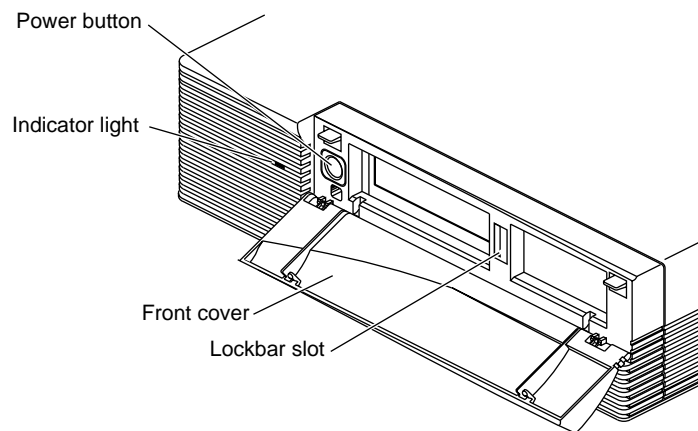

Figure 2-2 Turning Off the Power
2. Open the front cover as shown in Figure 2-2.
3. Press and release the power button on the front of the system to turn off the power. The power indicator light turns off. (Figure 2-2.)